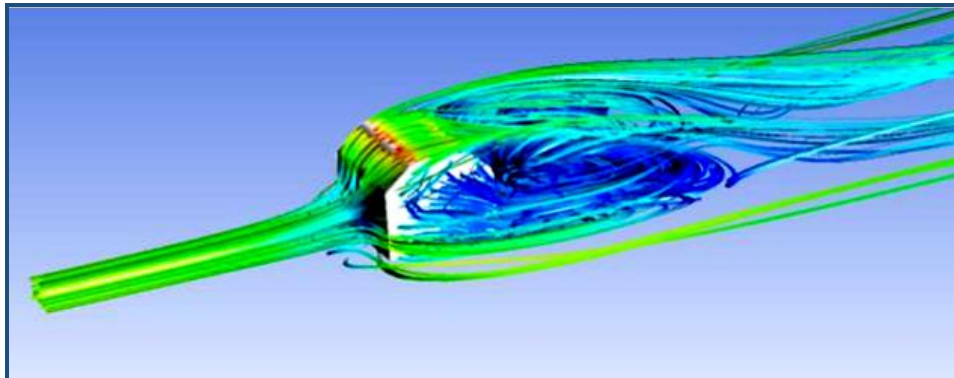

Figure 4.2: Flow over a building
5. Analyze the results using the Ansys CFD post to get the streamlines as shown in Figure 4.2.